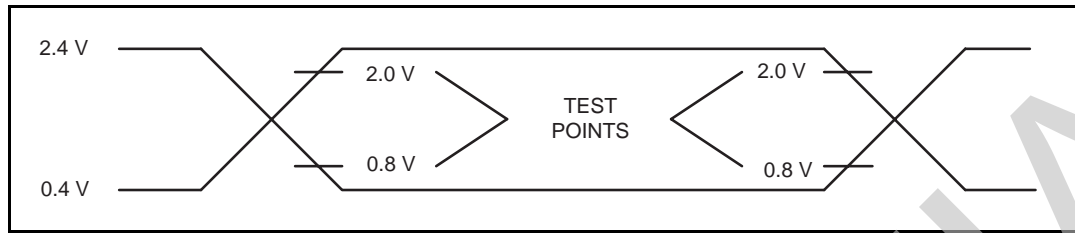

Figure 27 - Timing Diagram Test Points
1. Refer to Figure 27 for timing diagram test points.